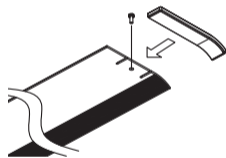

FIG.16
Step 1. Install end caps to each blade and tighten with screws supplied as shown in (Figure 16).